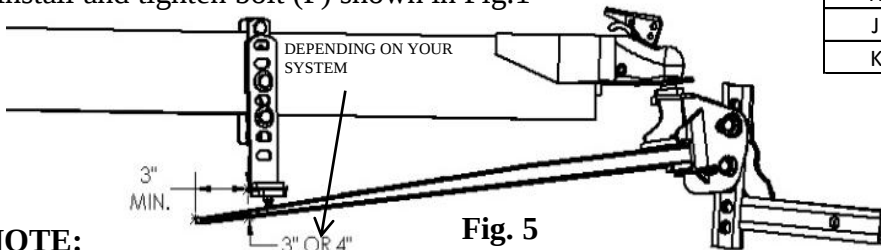

Fig. 5
- During ball mount adjustment, it may be necessary to raise or lower the L-bracket (L) to get the proper spring bar load if there is not enough head angle adjustment. If there are not enough washers to get the dimension shown in fig. 5, move the L-bracket (L) up 1 set of holes.
- If you have a 6" tall frame with a bottom mounted coupler (inverted coupler) it may be necessary to install brackets (V) and (W) upside down in order to get the L-bracket (L) mounted low enough. This will lower the L-bracket 1.75" Otherwise they may be too much spring bar pressure.
- Torque both 3/4" nuts (E) to 300 ft.*lbs. when the desired angle is achieved. If a large enough torque wrench is not available, torque nuts to 150 ft.*lbs. then tighten the nuts an additional 1/4 turn. Do not lubricate the threads.